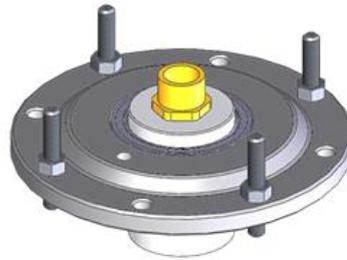

Figure 25: Brass Threaded Adaptor
- Screw the correct Brass Threaded Adapter into the end of the shaft (Figure 25).